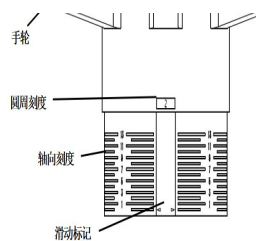

Figure 2
3. Open the valve to the preset opening (see Figure 2, i.e. 0.2 turns).